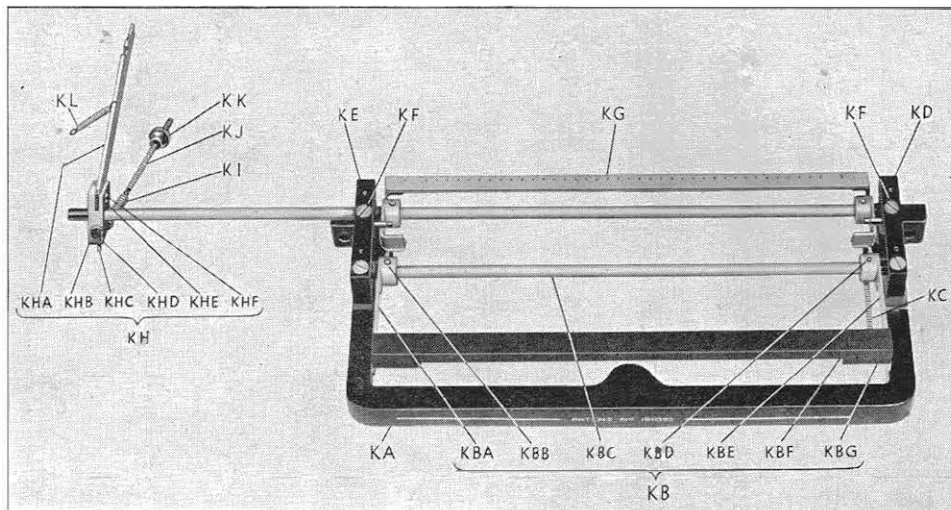

FIG. 8. FRONT BRACKET C.P. 860/78A.
Design Changes not shown in Fig. 8.
2. To facilitate adjustment, the Trip lever (KHB) has been modified and a new part, which is not shown in Fig. 8, has been added. The new part is coded "Trip lever adjusting block C.P.860/705" and is clamped on the Trip bar to the right of the Trip lever.
(See Fig. 8)